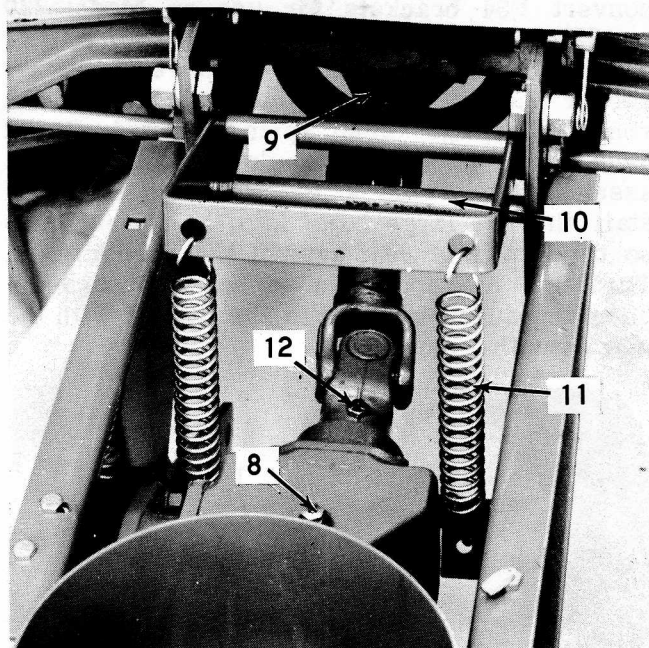

Figure 9. Connecting Snowcaster to Tractor
Every fifty (50) hours of operation, check the lubricant level in the gear box. See paragraph 9 and Figure 9 in the Installation section. At any evidence of seal leakage, stop operation and have it corrected by your J. I. Case Compact Tractor Dealer.
8. Remove the square head pipe plug from the top opening in the gear box and install the hex bushing and breather plug, Figure 9, which for shipping purposes is tied to one of the auger housing adapter plates. With the gear box positioned level, check the lubricant level at the side socket plug. Add, if necessary, to bring to this level using a good grade of SAE 75 or 80 EP gear lubricant.
11. With the tractor brakes locked and rear wheels blocked, raise and block up the auger housing high enough so the lift assist springs can be installed easily. Hook the springs into the attaching holes on the auger housing and mounting bracket as illustrated in Figure 9.